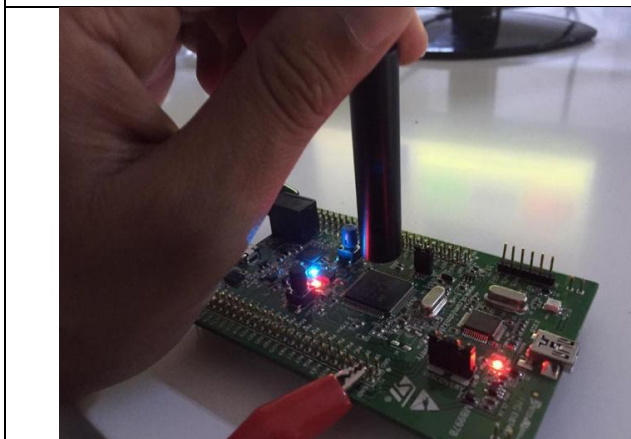

Figure 49: IR Sensor Component Temperature Measurement (Step 7)
8. The temperature of the first component is measured. If the value measured is within the recorded tolerance range of the recorded data, a sound indicating conformity is emitted, and the "Next Point" is clicked to open the second recorded data. If the value measured is not within the recorded tolerance range of the recorded data, a sound indicating non-conformity is emitted and the current drawing component is thus diagnosed. If "Auto Test" is selected and the value measured is within the recorded tolerance range of the recorded data, the next recorded data is opened after a few seconds later automatically. (Figure 49)